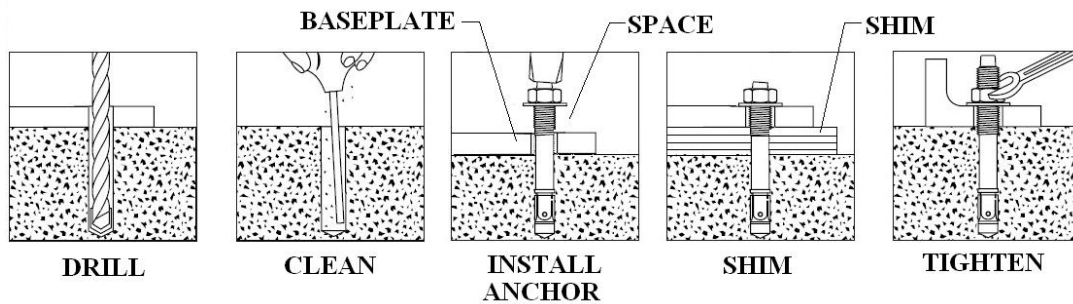

Figure 21 – Anchor Bolts
3. Refer to Bay Layout (**Figure 4**) to ensure that the column is still in the proper position. Using a rotary hammer drill with a 3/4" masonry drill bit and using the tower baseplate as a template, drill holes through the concrete floor on the high side column (In case longer anchors are required, supplied anchors can be hammered through concrete). Make sure that the 3/4" masonry drill is in good condition (**Figure 21**).
4. Carefully clean out drilling dust from the anchor holes. Hammer in the anchor bolts until they make contact with the baseplate (**Figure 21**). Hand tighten all anchor bolts.
2. Refer to Bay Layout (**Figure 4**) to ensure that the column is still in the proper position. Using a rotary hammer drill with a $\frac{3}{4}$ " masonry drill bit and using the tower baseplate as a template, drill holes through the concrete floor on the low side column (In case longer anchors are required, supplied anchors can be hammered through concrete). Make sure that the $\frac{3}{4}$ " masonry drill is in good condition (**Figure 21**).
3. Carefully clean out drilling dust from the anchor holes. Hammer in the anchor bolts until they make contact with the baseplate (**Figure 21**). Hand tighten all anchor bolts.
6. Torque all anchor bolts to 150 ft-lbs. (203 Nm), continually checking that the crossmember and column are level as you proceed. If anchor bolts do not tighten to 150 ft-lbs. OR project more than 2¼" above the concrete surface (**Figure 21**), the concrete should be replaced by an appropriate concrete pad. (*Consult Product Manufacturer / Supplier for further details*).